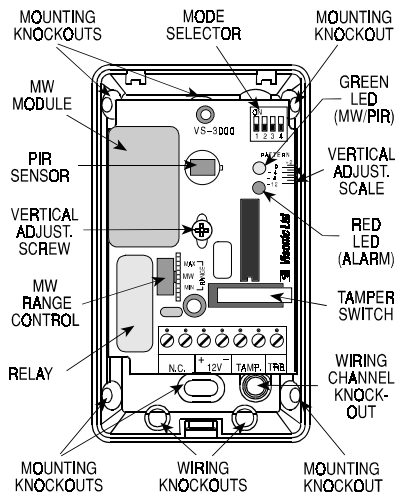
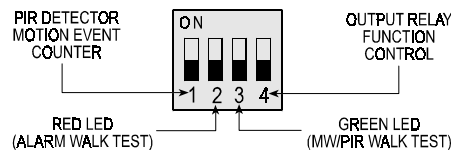

Figure 3. Printed Circuit Board Layout
Figure 6. DIP Switch Mode Selector
1. For wall surface mounting, use the two elongated knockouts at the middle of the base. For corner mounting, use two diagonally opposite knockouts at the angled sides of the base (see Figure 3).
2. To route the wiring to a lower conduit, use the two wiring knockouts at the bottom of the base (see Figure 3). To route the wires under the base towards the ceiling, use the wiring channel and its associated knockout.
The DIP switch mode selector is mounted on the unit's PC board (see Figure 3). It controls four functions as demonstrated in Figure 6 and as detailed in Table 2.
The vertical adjustment scale for the PIR detector is located at the upper right edge of the PC board (refer to Figure 3). An adjustment screw in the middle of the board allows fast and easy adjustment from +2° to -12°. All DUO 200 units are pre-adjusted in the factory to -5°.